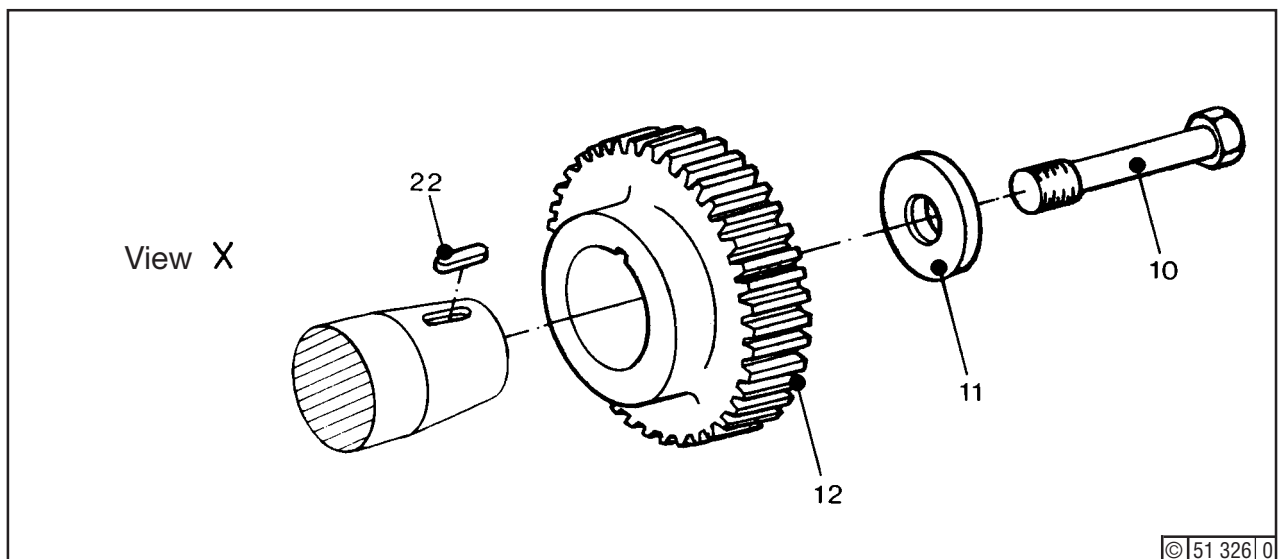
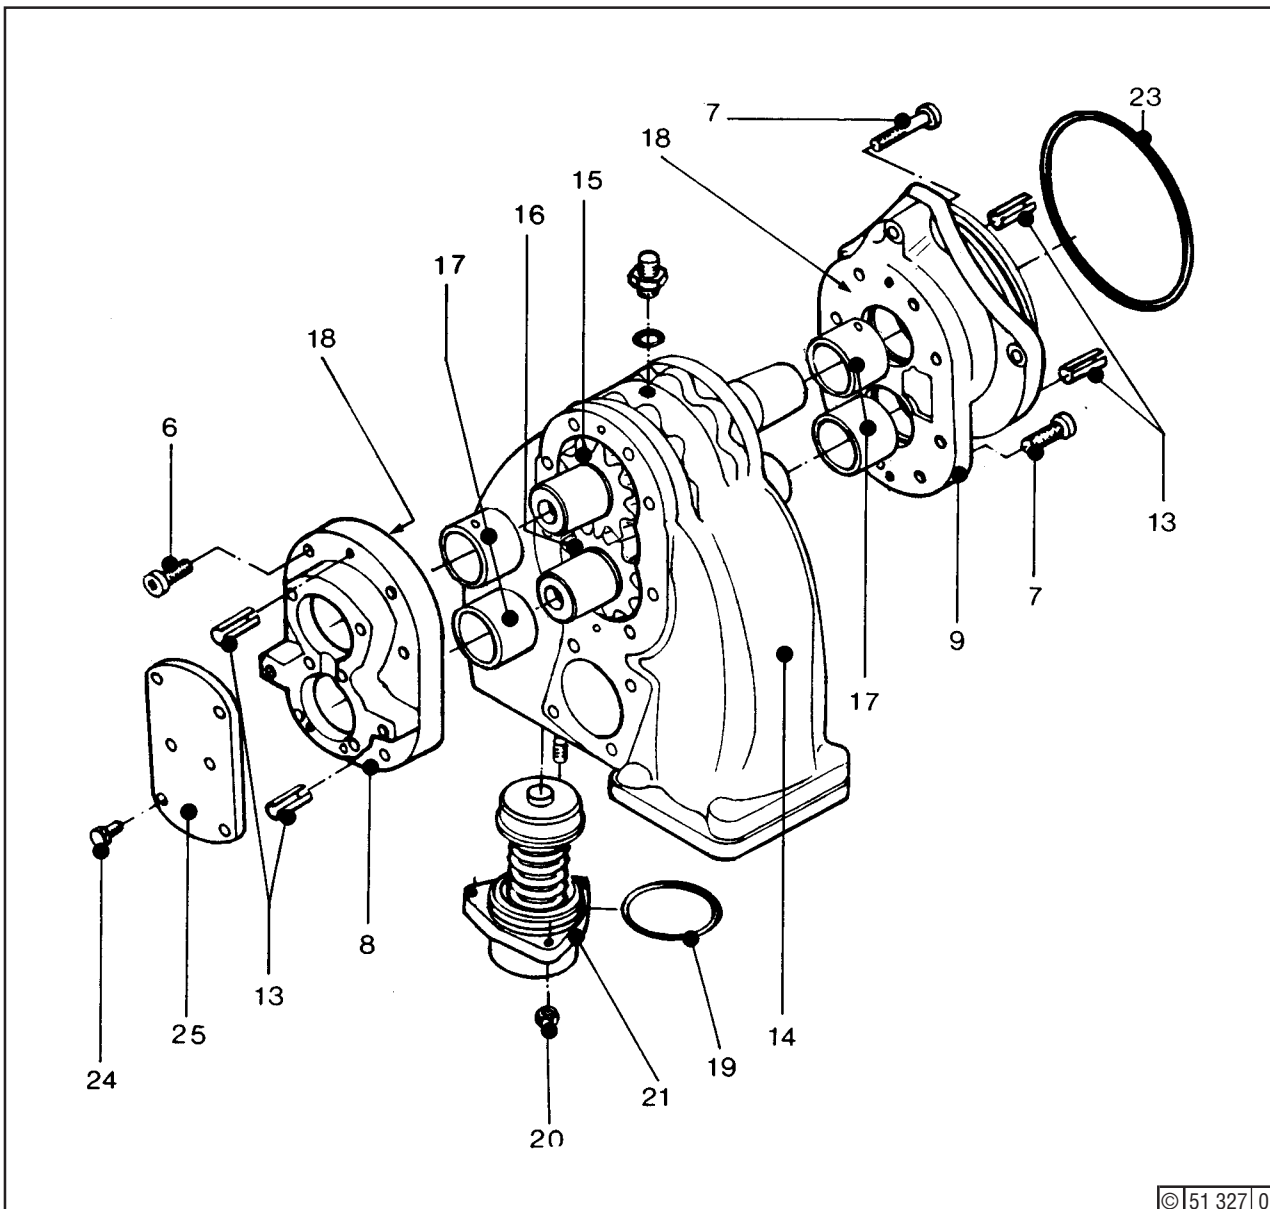

Fig. 2
Fig. 3
Unscrew bolt (10) - Fig. 2 - and take off washer (11). Remove driving gear (12) by puller and take out key (22). Unscrew hex. bolts (24) and take off cover (25) - Fig. 3 -. Undo cheese-head screws (6) and (7). Take off pump covers (8) and (9) from the pump body (14), paying attention to the two dowel sleeves (13). Remove gears (15) and (16) and inspect. If defective, renew. Clean all components and especially joint faces and oil passages. Inspect bearings (17) for scoring and gears for wear. Check that rotating faces (18) are free from friction marks.
Relief Valve (Fig. 3)
Install gear (15) (Fig. 3) in pump cover (9). Install key (22) - Fig. 2 - and fit gear (12). Screw bolt (10) with washer (11) in place and tighten with Deutz DW 55 locking compound (Section 3.5, item 22).
Apply Deutz DW 50 to sealing face of cover (8) - Fig. 3 -. Put cover (8) on body (14), locating it by dowel sleeves (13), and fit screws (6) with Deutz DW 55 locking compound.